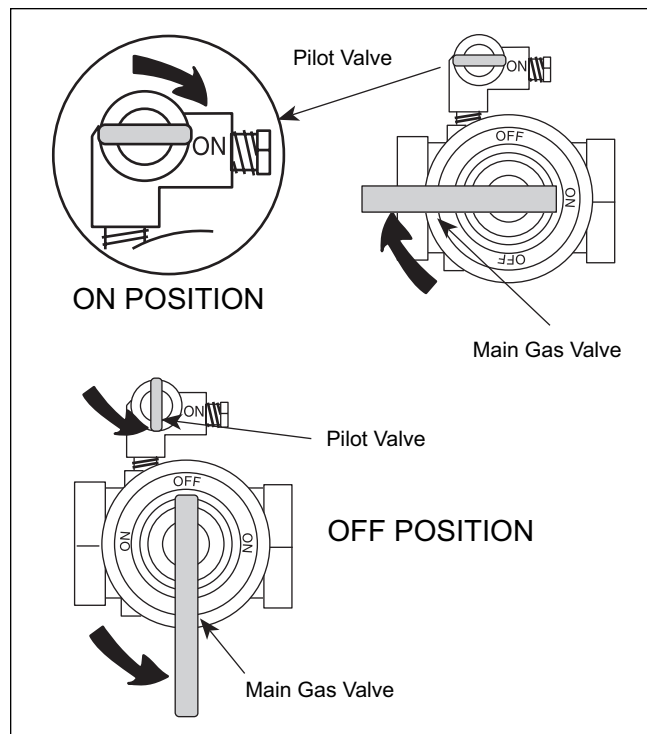

Figure 14 - Manual Gas Valves.
- b. Turn off all manual gas valves and wait five minutes (Figure 14).
Systems 4, 9, and 11 - (intermittent ignition). With this system pilots are automatically lit when the operating controls call for heat. If the pilot flame fails for any reason, the main valve is shut off within one second and the pilot spark ignition is initiated until the pilot flame has been reestablished. This sequence should be checked by turning off the manual pilot gas valve (see Figure 14), and, at the same time, monitoring the audible sparking at the pilot burner and signal interruption to the main valve.
System 16 - (electronically supervised standing pilot system). Extinguish the pilot flame by placing the manual pilot valve in the closed positions (see Figure 14), and at the same time, begin recording the time it takes for the output signal from the electronic ignition control to be interrupted. The signal interruption can be detected either with a test light or a voltmeter. The response time should never exceed one second.